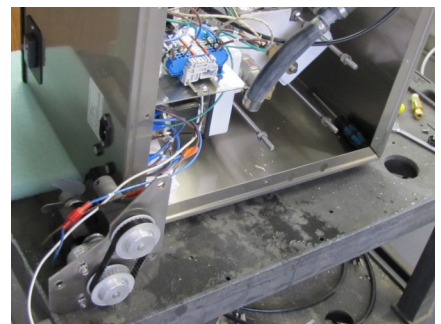

Figure 8
8. Remove the agitator motor assembly and set it aside as shown in Figure 8.